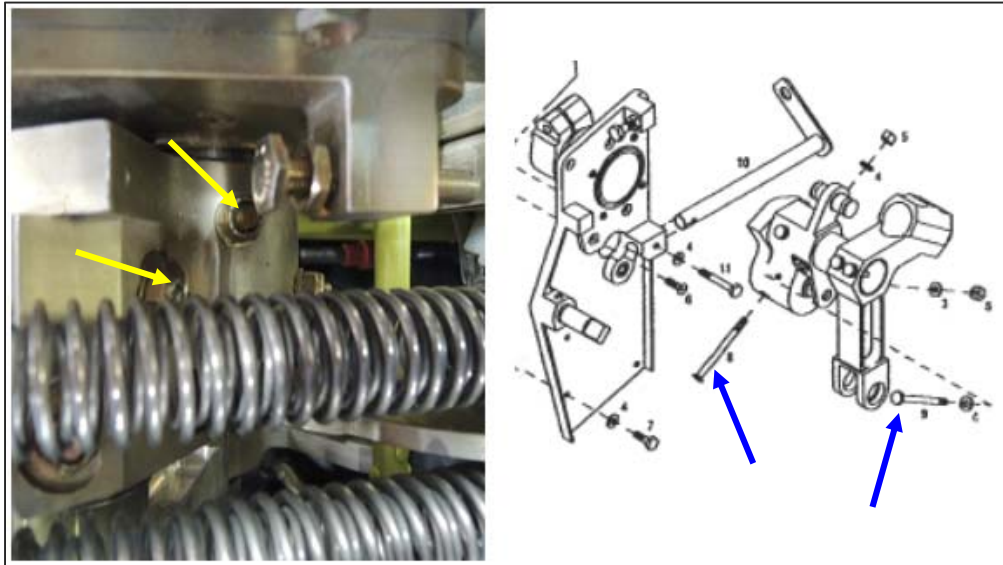

Figure 11. Offset Collective Tube Housing
- 6.3.16 Remove the two bolts securing the offset collective tube housing to the torque tube (Figure 11).
- 6.4.11 Reinstall the offset collective tube housing to the torque tube (Figure 11).